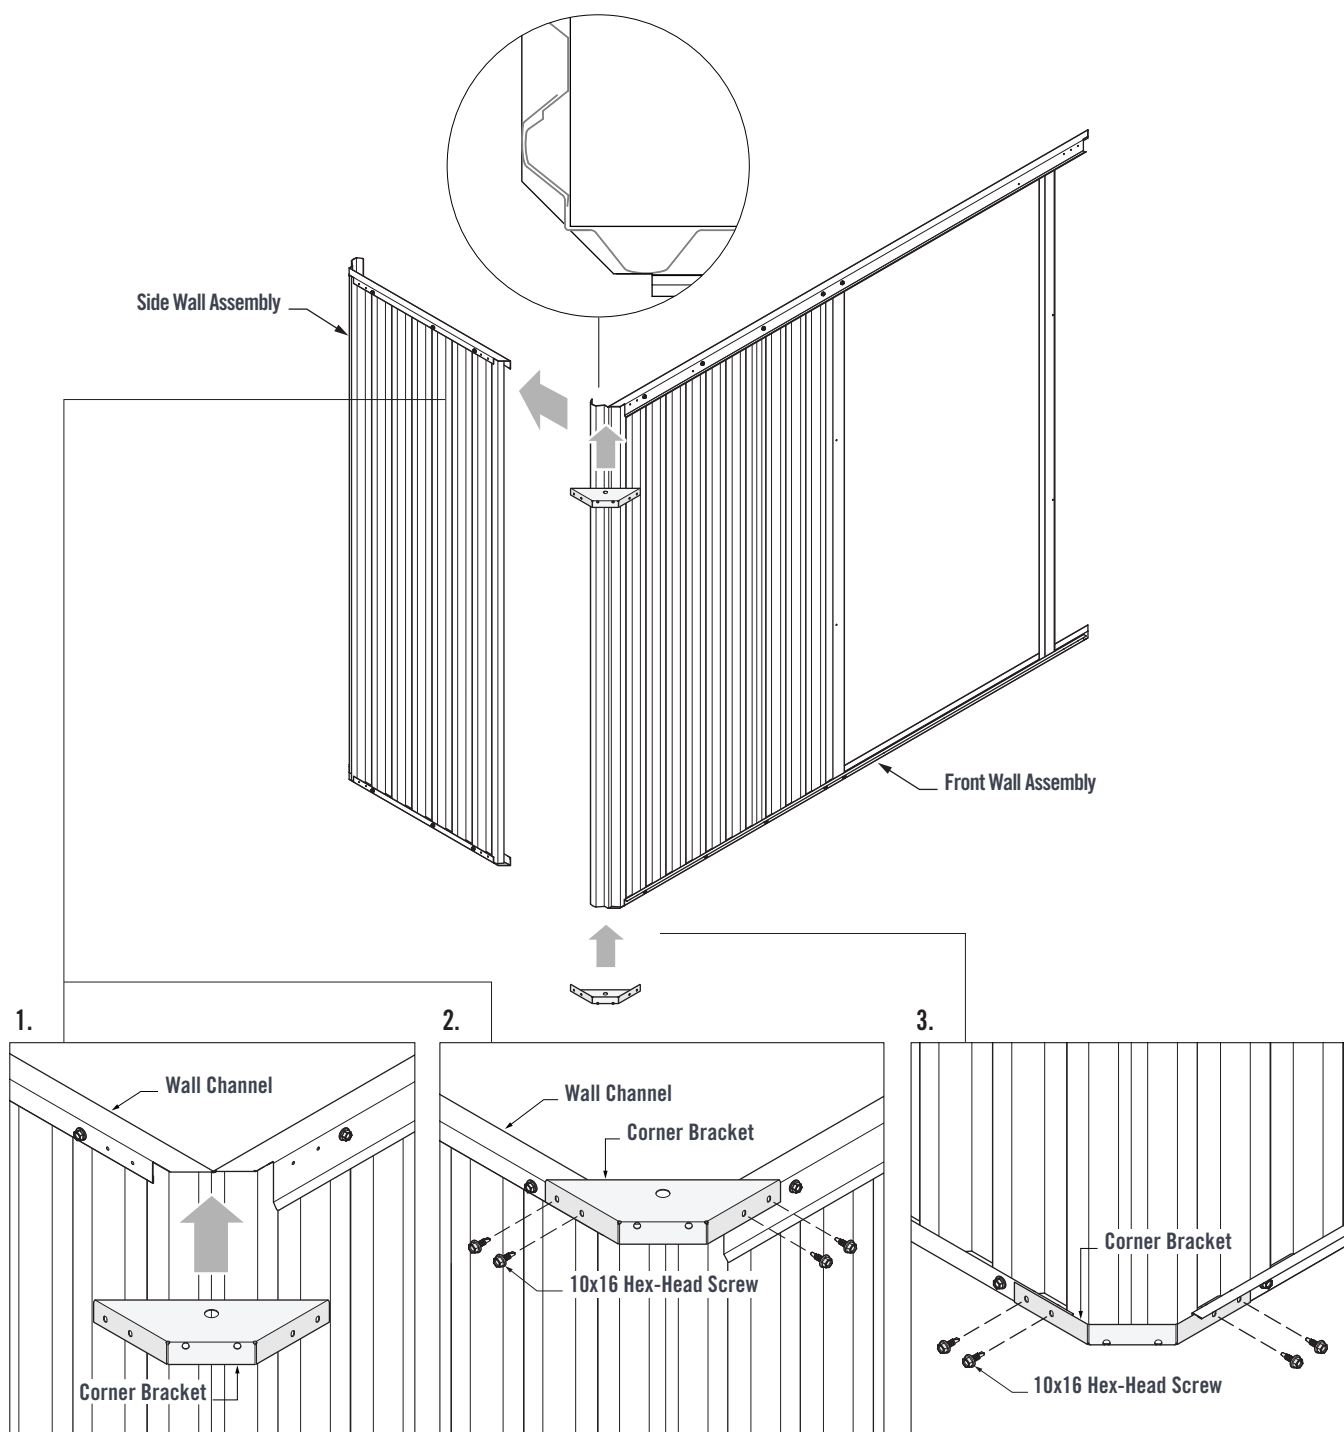

FIGURE 6.0
1. Fit a Corner Bracket over the top Channels. Ensure the pilot holes of the Corner Bracket and Channels line up (Figure 6.0).
2. Fasten through the Corner Bracket pilot holes and into the top Channels using four 10x16 Hex-Head Screws (Figure 6.0).
3. Fit a Corner Bracket to the bottom Wall Channels. Fasten through the Corner Bracket pilot holes and into the bottom Wall Channels using four 10x16 Hex-Head Screws (Figure 6.0).
Fit the Remaining Wall Assemblies together with Corner Brackets as per Figure 6.0.
2. Use the **Door Shroud** as a guide to set the correct spacing between the **Door Jambs**. Fit the Corner Bracket as per Figure 6.0.